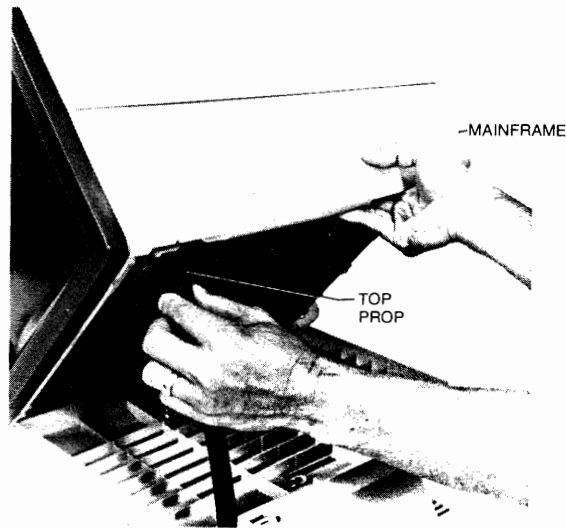

Figure 7-3. 45500A or 45500B Unit Set to the Half-Open Position
6. Squeeze the upper end of the top prop and lift the mainframe upward (see figure 7-3). Then slide the mainframe forward until it is free from the support hinge and remove.